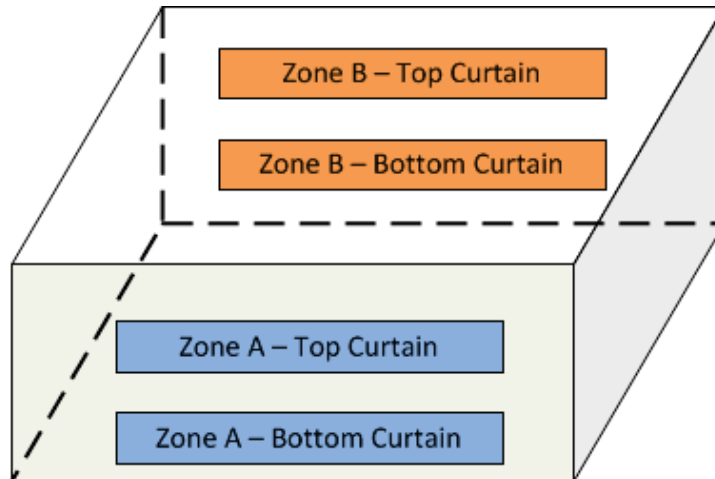

Figure 1: Dairy Barn having Top and Bottom Curtains
- **Top – Bottom Curtains:** In this setup, the barn has up to two sets of curtains, each set having a top and bottom curtain. Any time conditions are such that curtains must open, the top curtain opens first. The bottom curtain opens only after the top curtain is in position. See Figure 1.